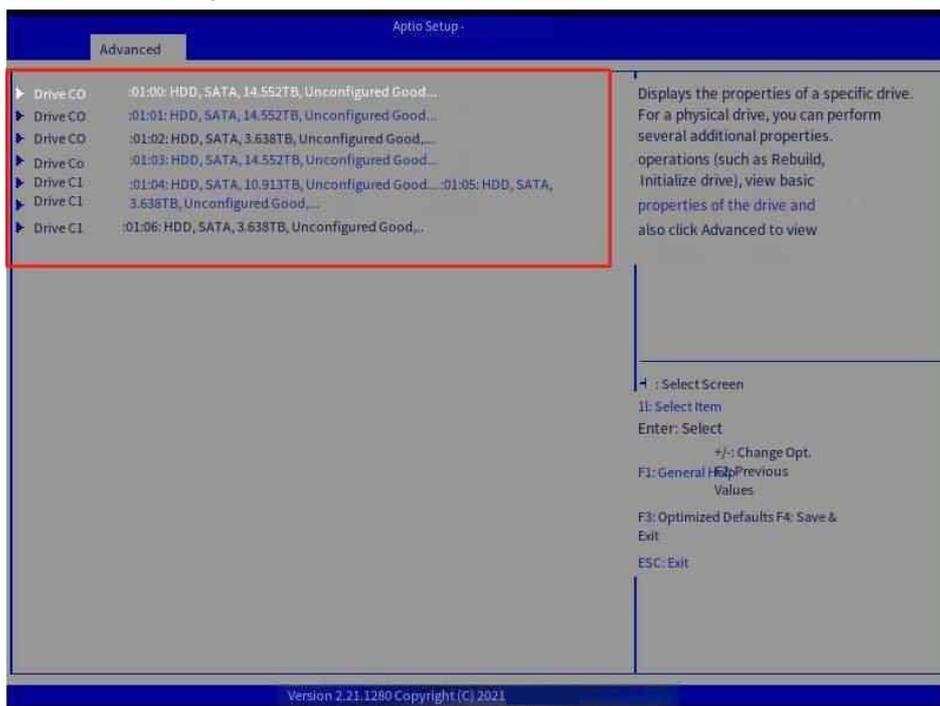

Figure 7-50 Viewing hard drive information
Step 2 Press Enter to go to Drive Management, where you can view hard drive information (Figure 7-50).